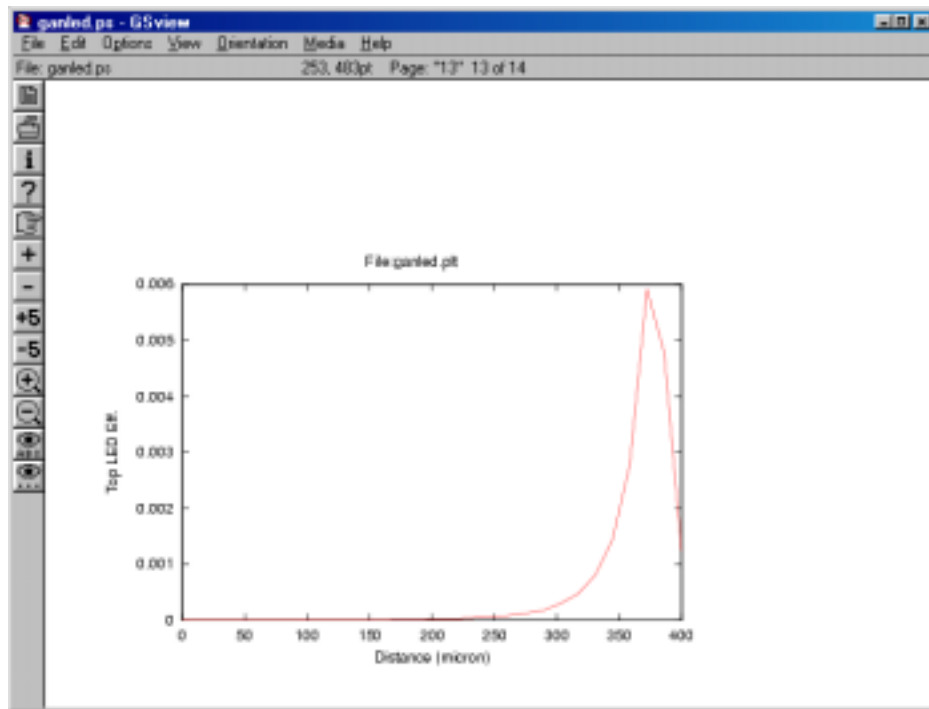

Fig. 16e: External efficiency distribution for top emission along lateral direction of column 1.
- external efficiency distribution for top emission along lateral direction of column 1 (Fig. 16e)